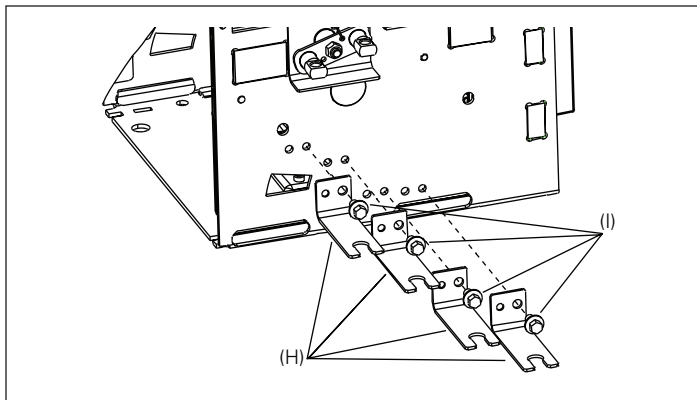

Figure 8. Details for Step 4
Fasten four cable brackets (H) to drawout cassette's right-side sheet just below interlock assembly mounted in Step 3 using four M6 x 10 mm thread-forming screws (I) as shown in Figure 8. Torque to 7,3–9,6 N·m (65–85 in-lb).